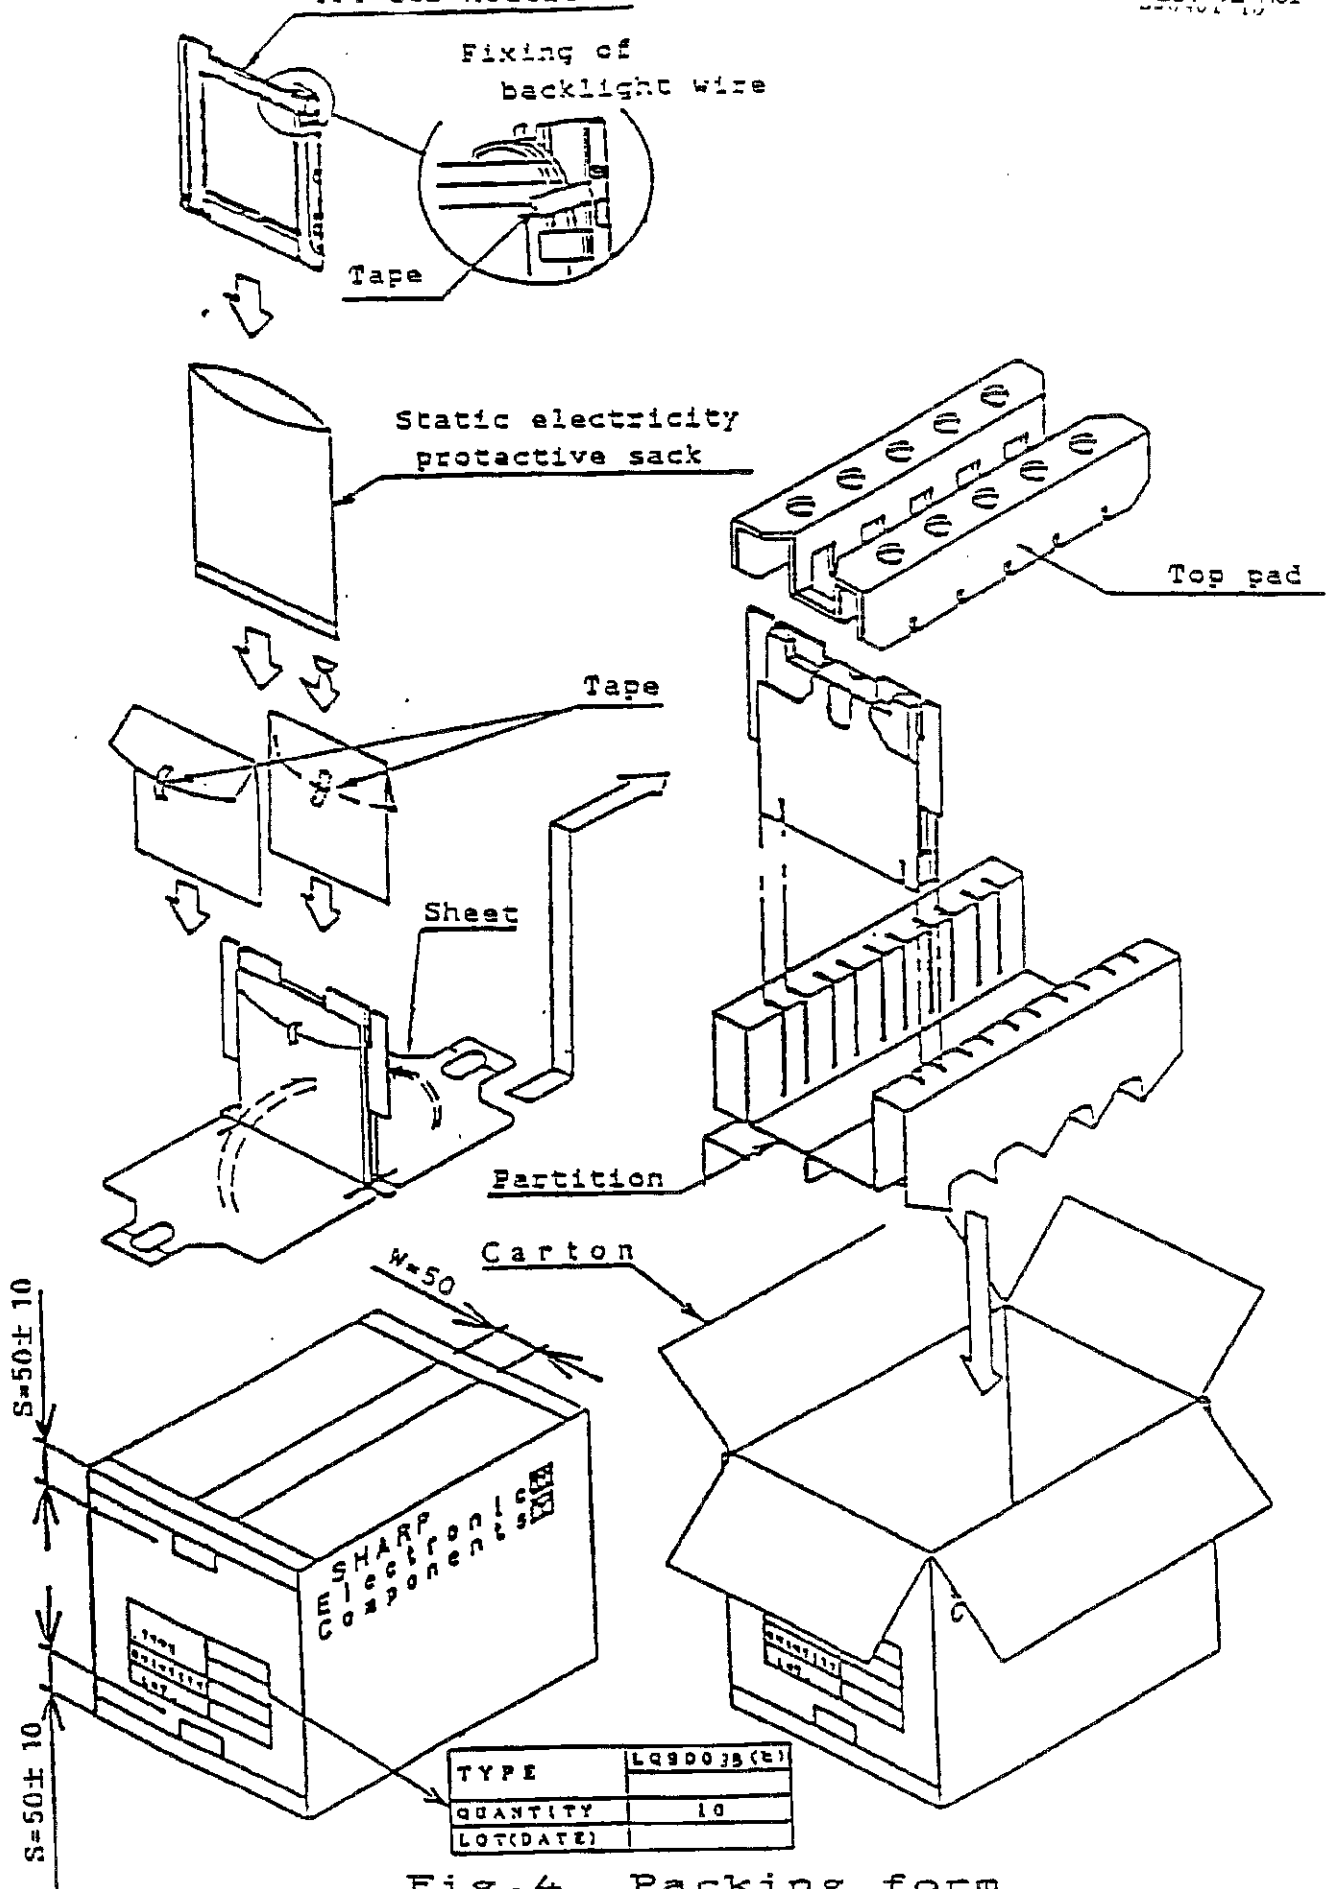

Fig.4 Packing form
- c) Carton size : 413(W)x288(H)x351(D) mm
- Packing form is show in Fig.4.